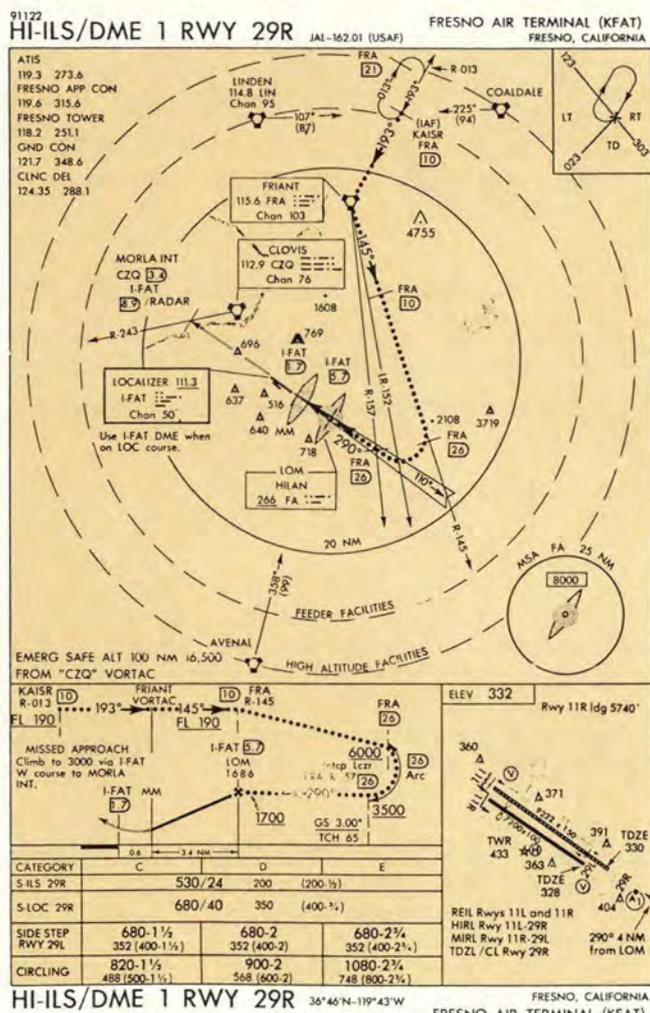

Figure 2
proach portion of the approach. The FAF can be identified using the outer marker (OM) or crossing radials, and missed approach timing can be started from this point. In figure 2, HI-ILS/DME 1 RWY 29R, DME is specifically mentioned in the name. Since DME is listed as being needed to fly the final portion of the approach, the "TERPster" is not required to give you a timing box. Although it appears to require a little interpretation, you will go localizer missed approach at I-FAT 1.7 DME as you would if you flew the low-altitude approach.